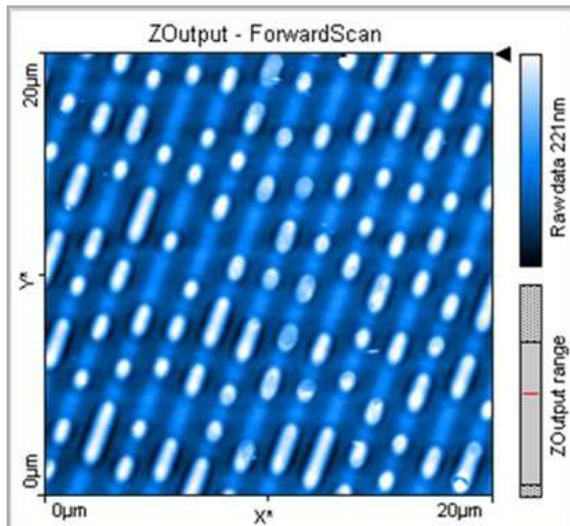

Figure 33: 20-µm Image of CD Stamper. Note that the curvature of the tracks is not discernible at this scan size.
3. Take an image of well-ordered bumps at least 5 or 6 tracks wide. Try to get an image similar to Figure 33: 20-µm Image of CD Stamper, which is suitable for measuring the bump length (Figure 34: Bump length). Furthermore, you can determine the track distance if interested.